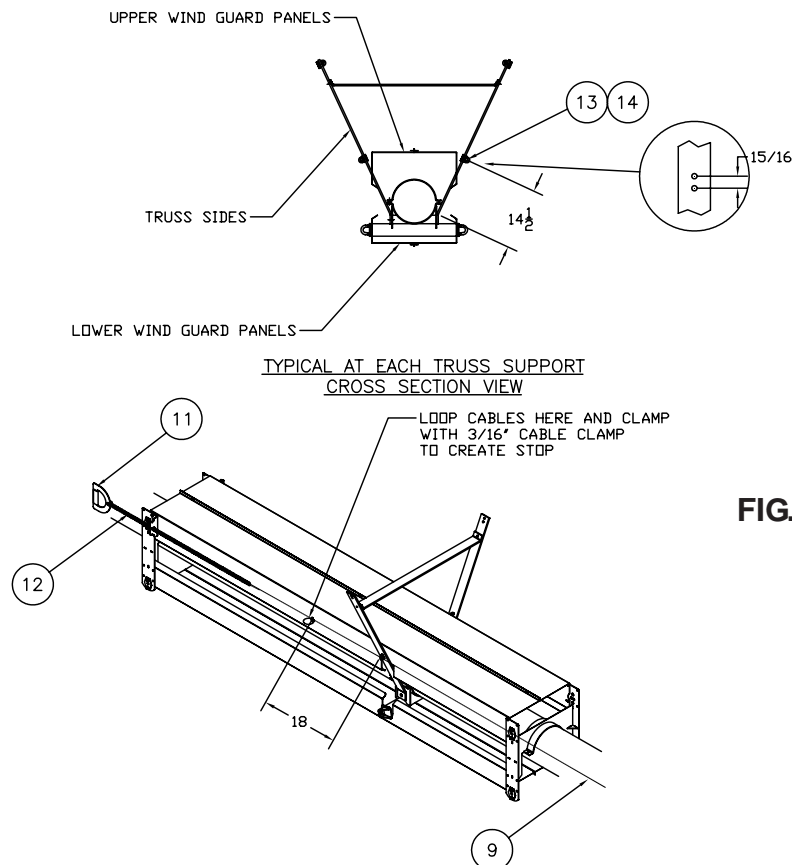

FIG. 5
13. If the conveyor truss side bars or angles do not have the mounting holes for the cable guides, it will be necessary to field drill them. Measure up approximately 14-1/2" from the lower bend of the truss side and drill two 13/32" diameter holes 15/16" apart on centers. (See cross section view of Fig. 5.)
17. Referring to Fig. 5, at a point approximately 18" past the lower truss support, make a loop in each cable and install a 3/16" cable clamp. This prevents too much slack cable from developing past the truss support when the cables are not being pulled to move the deflector panels.